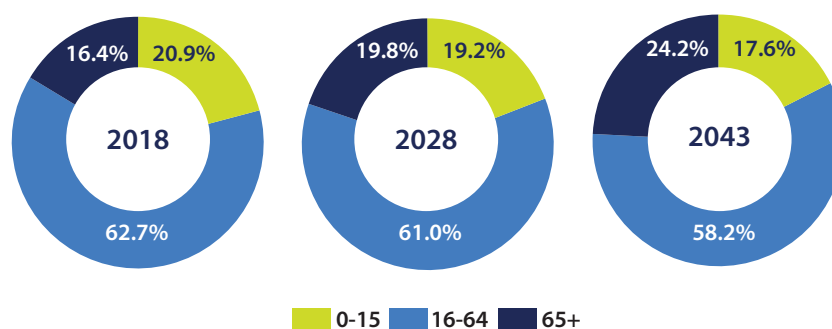

Figure 2- Ageing population
- Increasing older population, estimated to be 24.2% of the population in 2043 (Figure 2). As more people live longer with some form of disability, this will undoubtedly impact on the continued and increasing needs for adaptations.